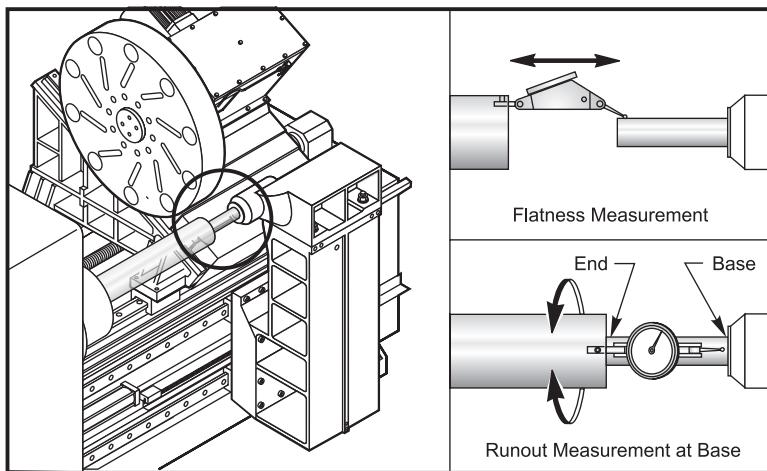

Figure 3.4-2
1. Using a spindle alignment tool and a Morse taper tool, indicate from spindle to tailstock. Measure flatness and TIR (total indicated run-out). Determine which direction the tailstock is out of alignment (Figure 3.4-2).